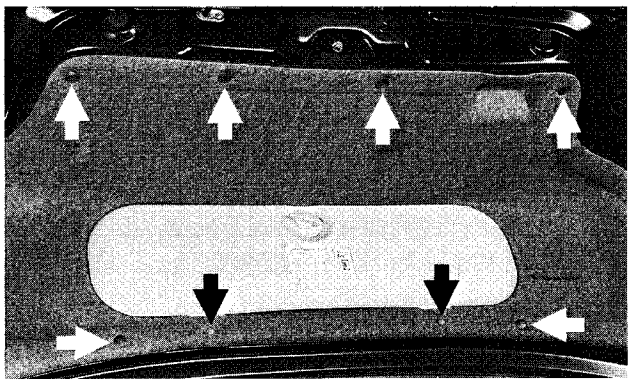

Fig. 1. Trunk lid liner retaining screws and clips (arrows).
2. Remove insulating liner from underside of trunk lid. See Fig. 1.